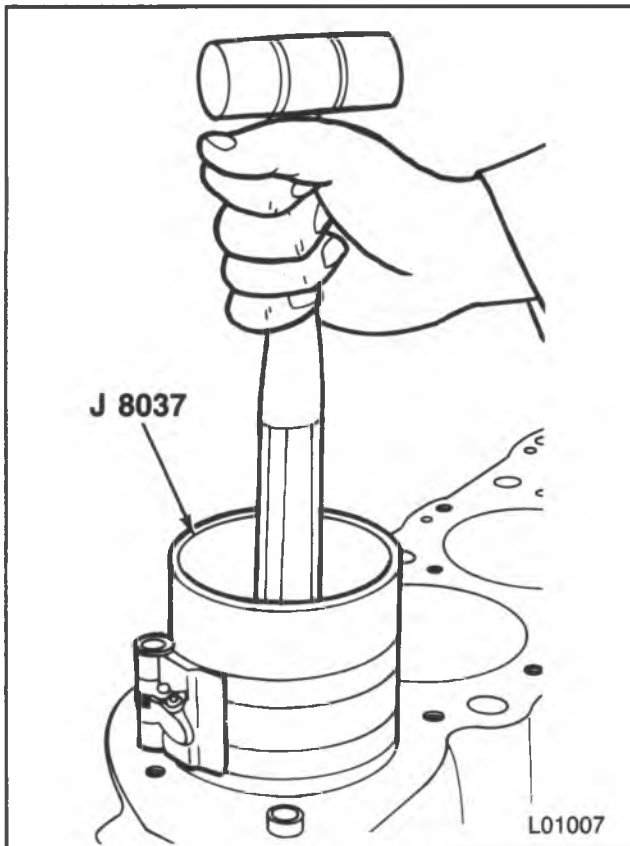

Figure 29 — Installing the Piston
- Without disturbing the ring end gap location, install J 8037 over the piston (figure 29).
- Place the piston in its matching bore. Using light blows with a hammer handle, tap the piston down into its bore (figure 29). At the same time, from beneath the vehicle guide the connecting rod to the crankpin with J 5239 (figure 27). Hold the ring compressor against the block until all rings have entered the cylinder bore.